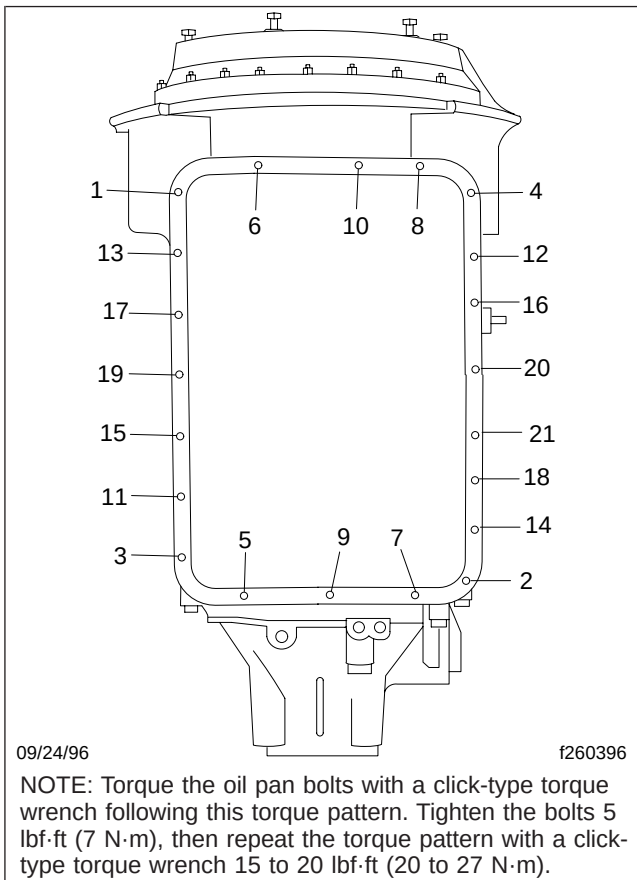

Fig. 9, Allison MT Series Transmission, Oil Pan Torque Pattern
14. Tighten each capscrew with a click-type torque wrench 5 lbf·ft (7 N·m). Use the torque pattern shown in **Fig. 9** to distribute the torque evenly. Repeat this procedure and torque the capscrews with a click-type torque wrench 15 to 20 lbf·ft (20 to 27 N·m).